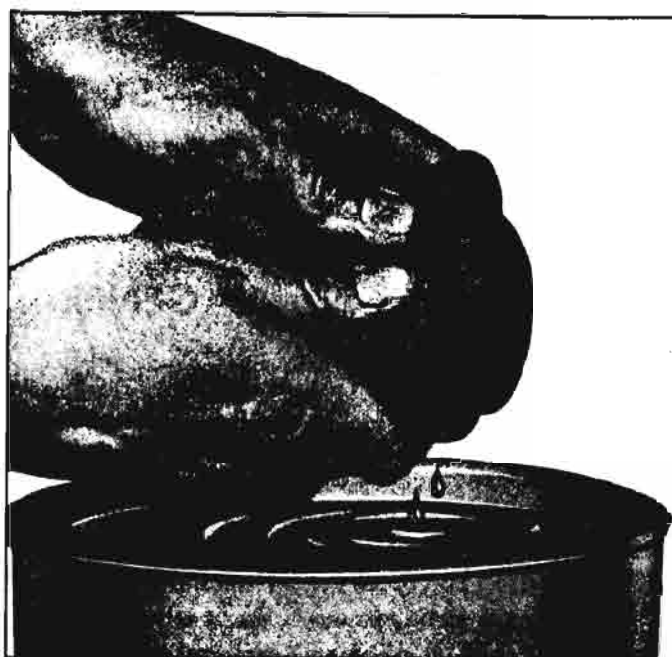

Fig. 9-40—Cleaning Element
- c. Clean the filter element in kerosene or mineral spirits (never use a hot degreaser or any solvent containing acetone or similar elements), then squeeze out the excess solvent (fig. 9-40).